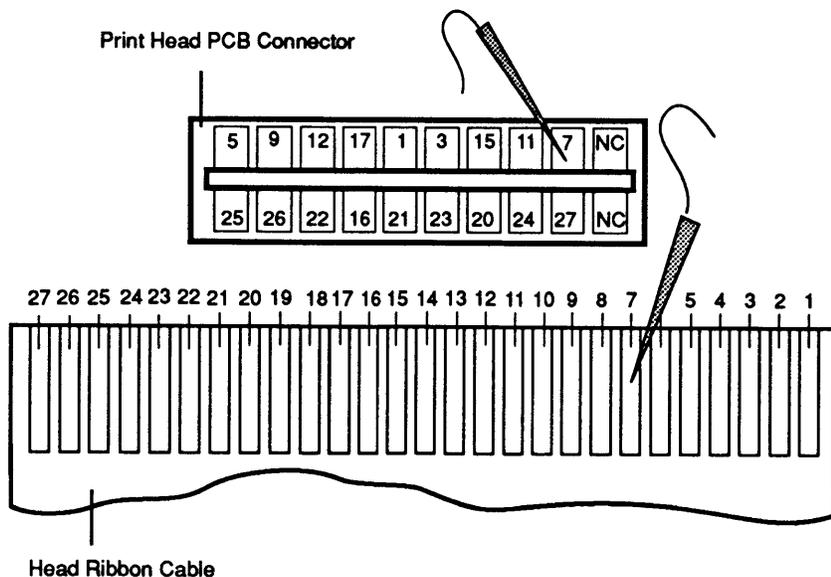

FIGURE 3-11
- c) Check for continuity between the pins on the head ribbon cable and the corresponding pins on the print head PCB connector. The pins to be checked are shown below in **Figure 3-11**.